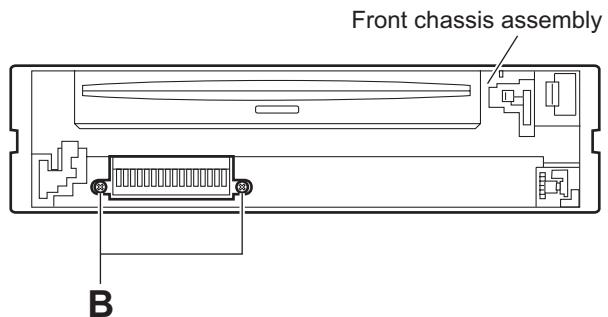

Fig.4
- (2) Remove the two screws **B** on the front side of the main body. (See Fig.4)